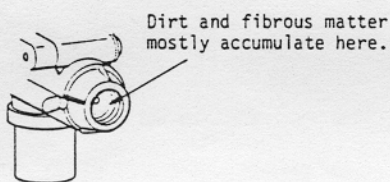
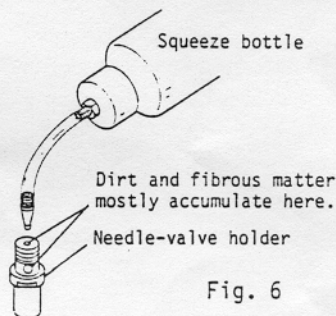

Fig. 7
Fig. 6
- Occasionally remove the needle-valve holder from the carburettor and rinse out the locations shown in Fig. 6 and Fig. 7 with methanol or fuel. Be careful not to lose the gasket when removing the needle-valve holder from the carburettor.